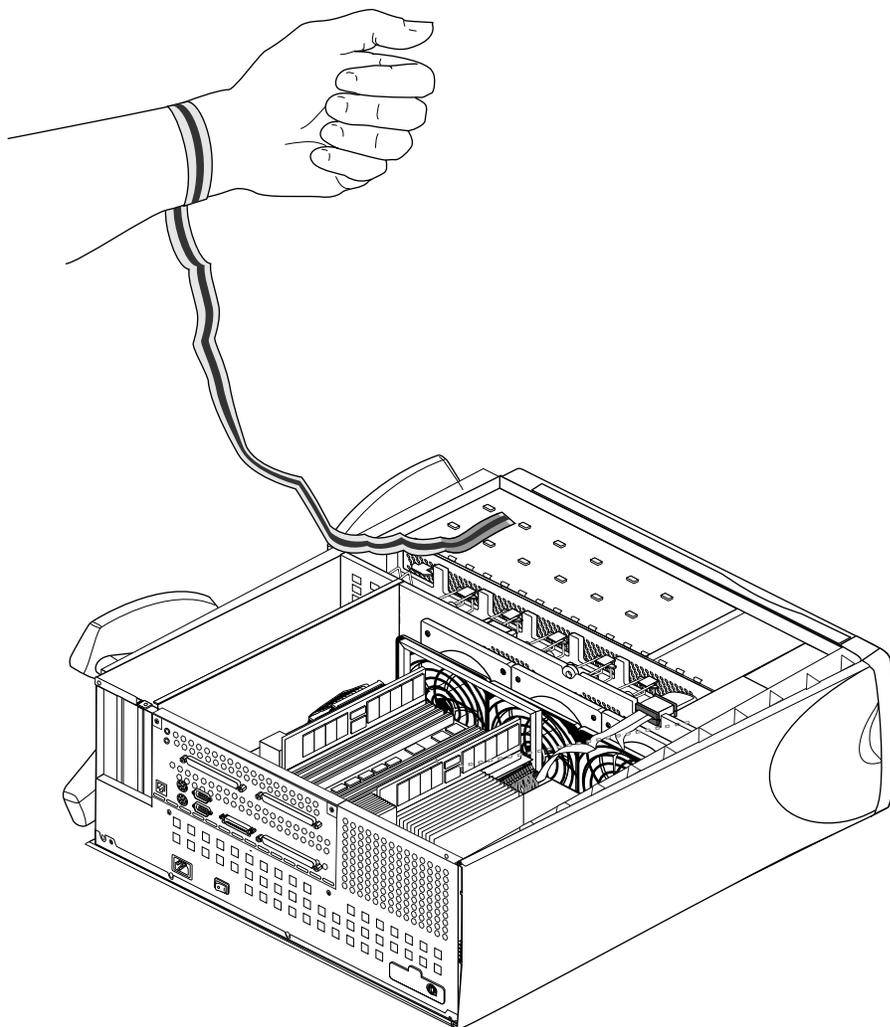

Figure 5-5 Attaching A Grounding Wrist Strap
4. Attach a grounding strap to your wrist. Figure 5-5 shows an example of a disposable grounding strap.